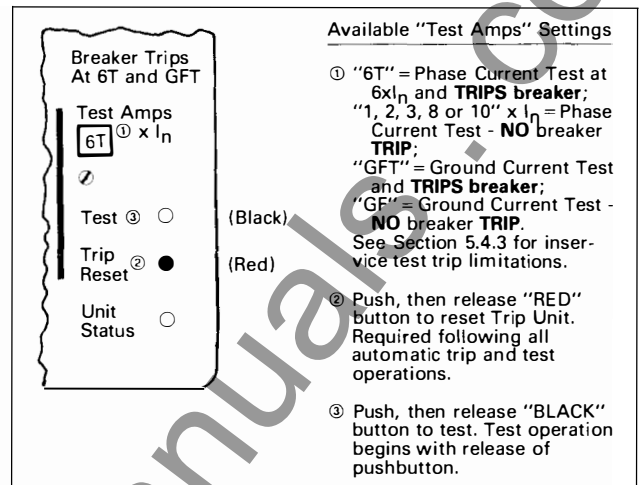

Fig. 5 Integral Test Panel (Lower Right Corner of Trip Unit)
As indicated in Fig. 5, six different "Test Amps" settings (1, 2, 3, 6T, 8 and 10X I_N) are available for testing the phase elements of the trip unit, and two (GF, GFT) are provided for testing the ground elements.
1. Place the "Test Amps" selector switch (See Fig. 5) in one of the six "No Trip" test settings, i.e., 1, 2, 3, 8, or 10, x I_N , or GF.
2. Place the "Test Amps" selector switch (See Fig. 5) in one of the two "Trip" test settings, i.e., 6T or GFT.
3. Depress the black "Test" pushbutton (See Fig. 5) and release it – the test is initiated when the pushbutton is released.
5. Reset the trip unit by depressing and releasing the red "Trip Reset" pushbutton (See Fig. 5). All LEDs lighted by the "Trip" test action should turn "OFF".